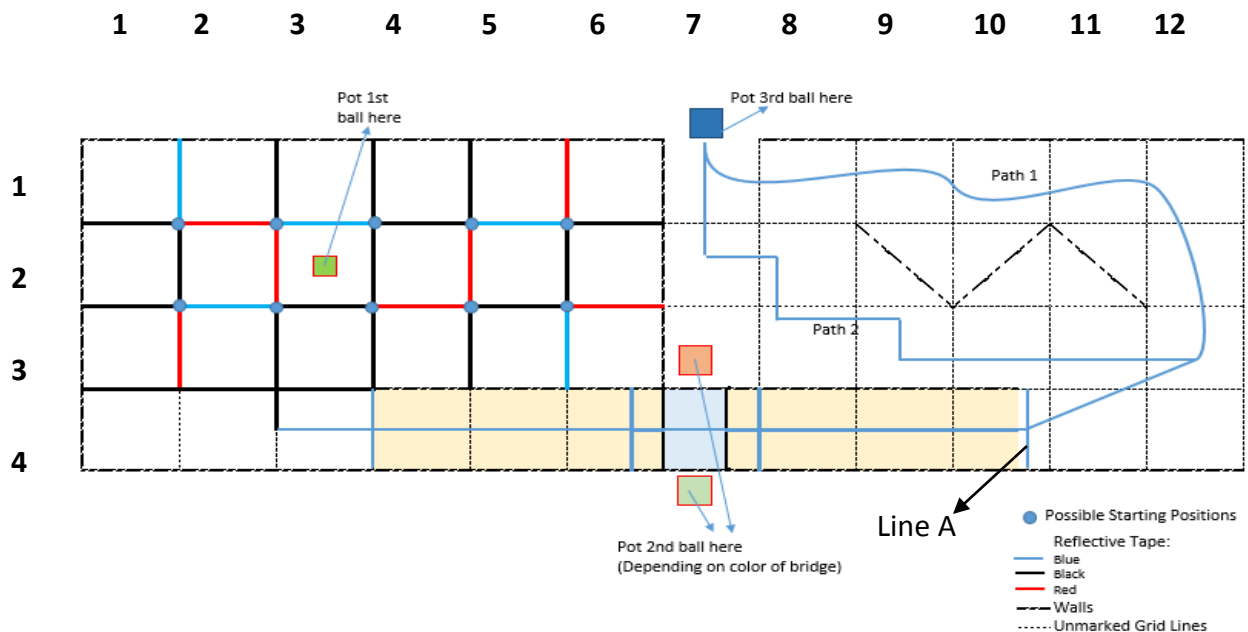

Figure 1 Contest Arena (Top View)
- 6.2 *Figure 1 Contest Arena* consists of two sub arenas, both the sides are identical to each other and their colored boxes locations are similar.
- 6.10 The robot can only enter in zone Z2 from Z1 by crossing the bridge. The bridge is as shown in *Figure 1. Contest Arena*. The robot must cross the bridge.
- 6.12 *Figure 1 Contest Arena*. The orientation of the robot will also be random.
- 6.15 The robot or an extension of the robot must be present in the grid unit present at the location (2,3) as shown in *Figure 1. Contest Arena* in order to pot the supply in the unit.
- 8.1 The robot may not throw the tennis ball. It can only drop the ball after reaching the grid located at (2,3) as shown in Figure 1. Contest Arena in Z1. The robot or an extension of the robot must be present in the grid unit present at the location (2,3) as shown in Figure 1. Contest Arena in order to pot the supply in the unit.